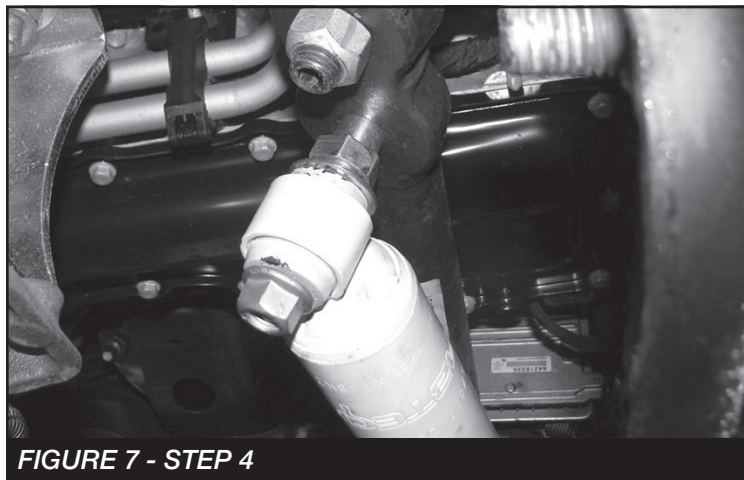

FIGURE 7 - STEP 4
4. Locate and Install the FT89031 (Stud) onto the center link Torque to 49 ft-lbs. Next, Install the supplied FT402087 (Sleeve) into the bushing on the shaft end. Install the body end of the stabilizer onto the installed stud. Torque to 49 ft-lbs. **SEE FIGURE 7**